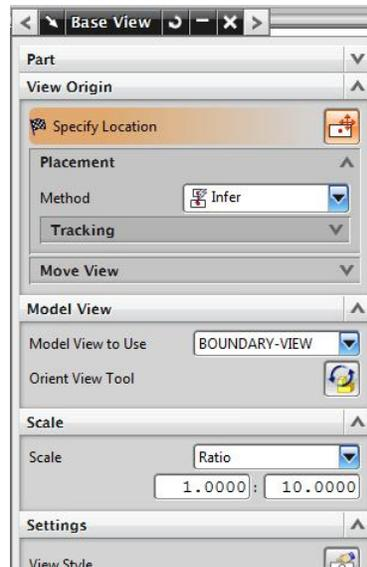

Figure 8–23
22. For *Scale*, select **Ratio** from the pull-down and enter [10] in the second field as shown in Figure 8–23.
23. Place the view as shown in Figure 8–24 and press <Esc> to cancel the projection view creation.